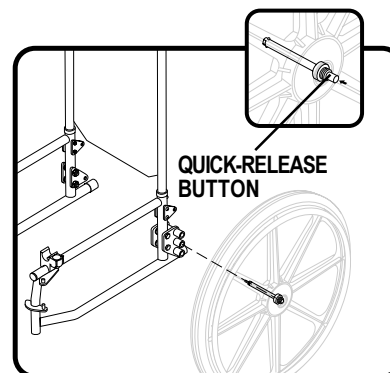

Figure 11. Quick-Release Drive Wheel
1. Press the quick-release button and pull the drive wheel off. See figure 11.